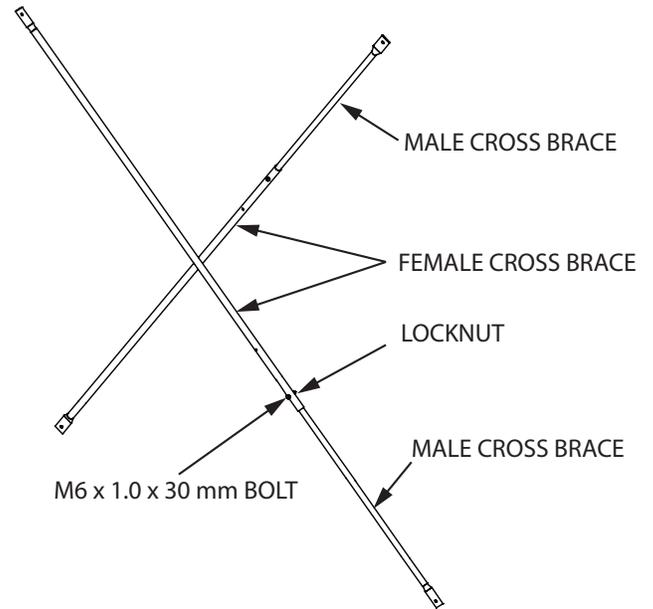

FIGURE 9
- a. Locate the (8) male cross braces (TP132) and the (8) female cross braces (TP131). Insert the male cross braces into the female cross braces.
- b. Using (8) provided M6 x 1.0 x 30 mm bolts and locknuts, secure the cross braces in the hole location listed in **FIGURE 9**. When assembled together, all eight cross brace assemblies should measure approximately 88-3/4" from end to end.